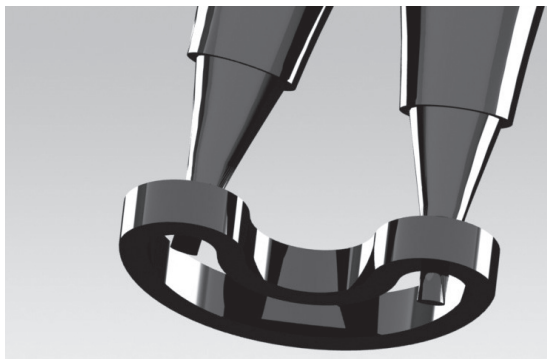

Figure 4
Put first the o-rings of the shaft bearing set (5) into their grooves and then the bearings by forming them as kidney's with locking ring pliers. (see figure 4)